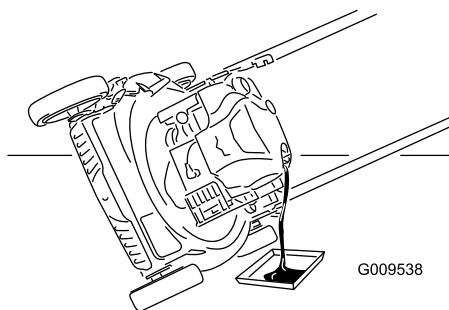

Figure 26
3. Tip the mower onto its side with the air filter up to drain the used oil out through the oil fill tube (Figure 26).
4. Slowly pour oil into the oil fill tube until the oil level reaches the **Full** line on the dipstick (Figure 26). Wait 3 minutes after adding oil to check the oil level with the dipstick. **Do not overfill.** (Max. fill: 20 oz. (0.59 l), type: SAE 30 detergent oil with an API service classification of SF, SG, SH, SJ, SL, or higher.)